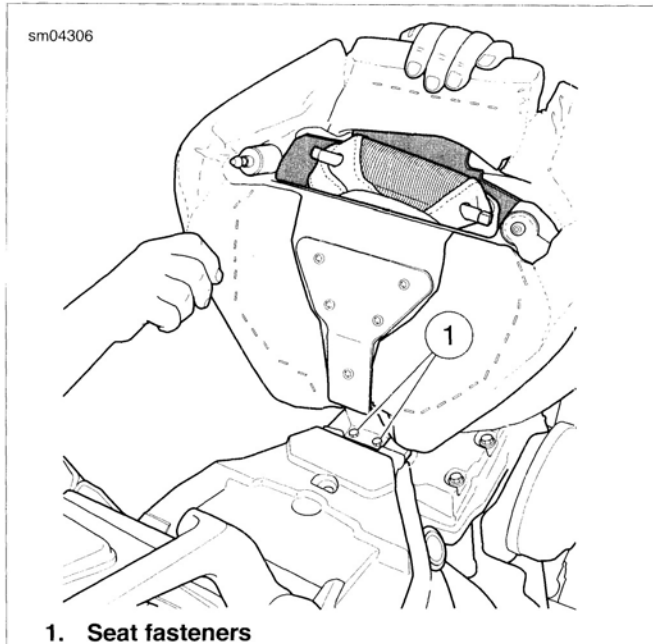

Figure 2-130. Rider Seat: FXCWC Models
2. See Figure 2-130. Remove two fasteners (1). Remove seat.